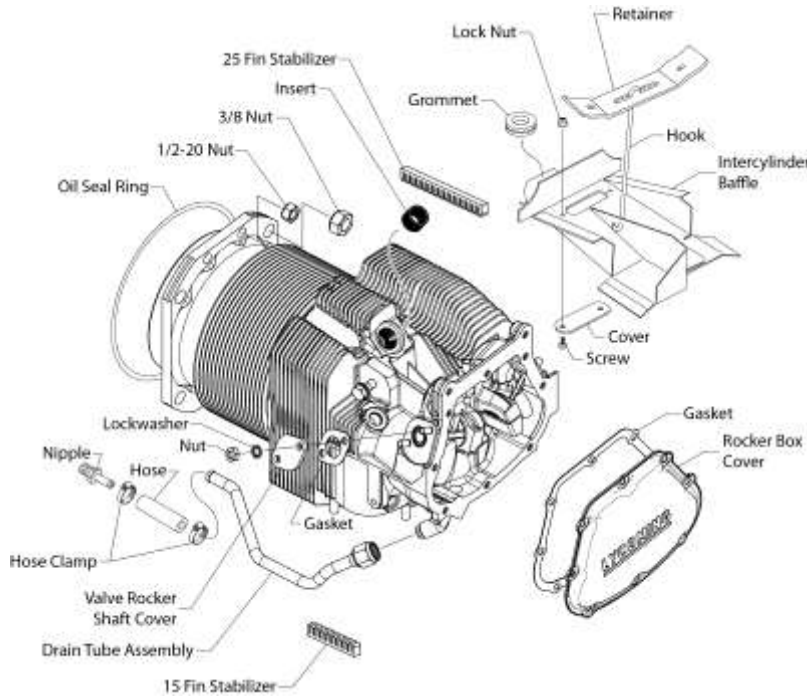

Figure 1
- A. Examine the cylinder and cylinder head (Figure 1) thoroughly for cracks, leaks, rust, pitting and/or damage. Replace a damaged, rusted, pitted, leaky or cracked cylinder per instructions in this chapter.
- E. Look for cracked or broken fins and baffles (Figure 1). If a cooling fin adjacent to the exhaust port flange is cracked, a 3/16 in. (4.76 mm) diameter hole can be drilled as a stop, under the following conditions:
- (1) There cannot be more than four blended fins on the push rod side of the head,
- (2) No more than six blended fins on the anti-push rod side of the head.